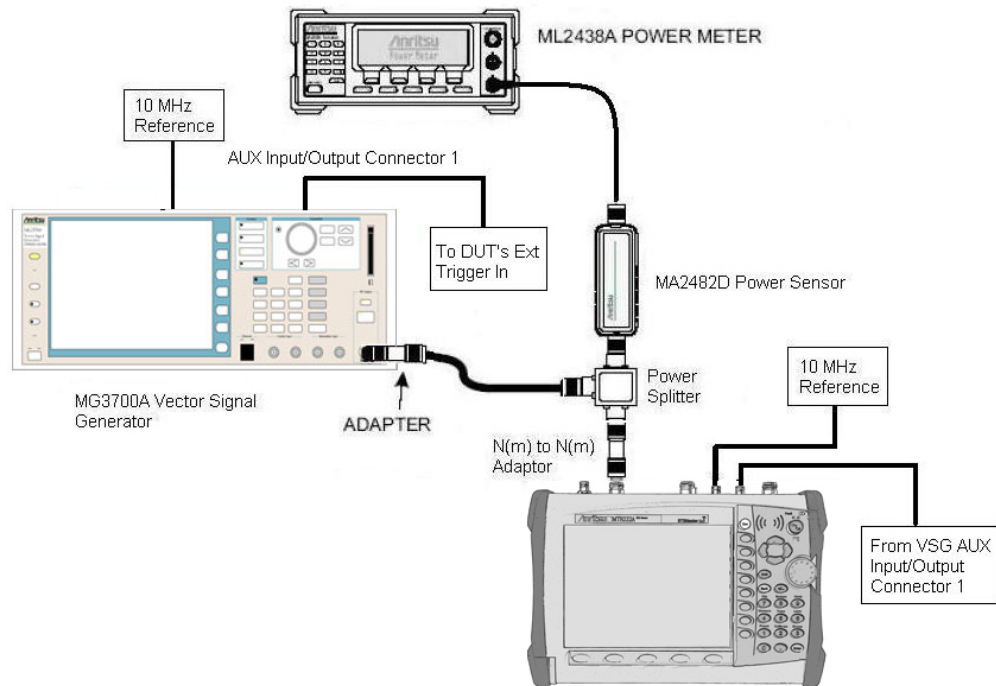

Figure 5-8. EVDO Signal Analyzer Option Verification
2. Connect the equipment as shown in Figure 5-8.